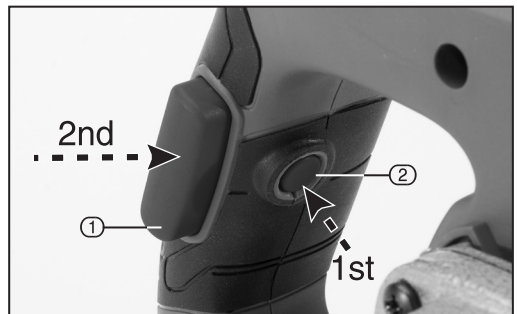

FIG. 2
7.1 ON/OFF SWITCH & LOCK-OFF BUTTON – FIG. 2